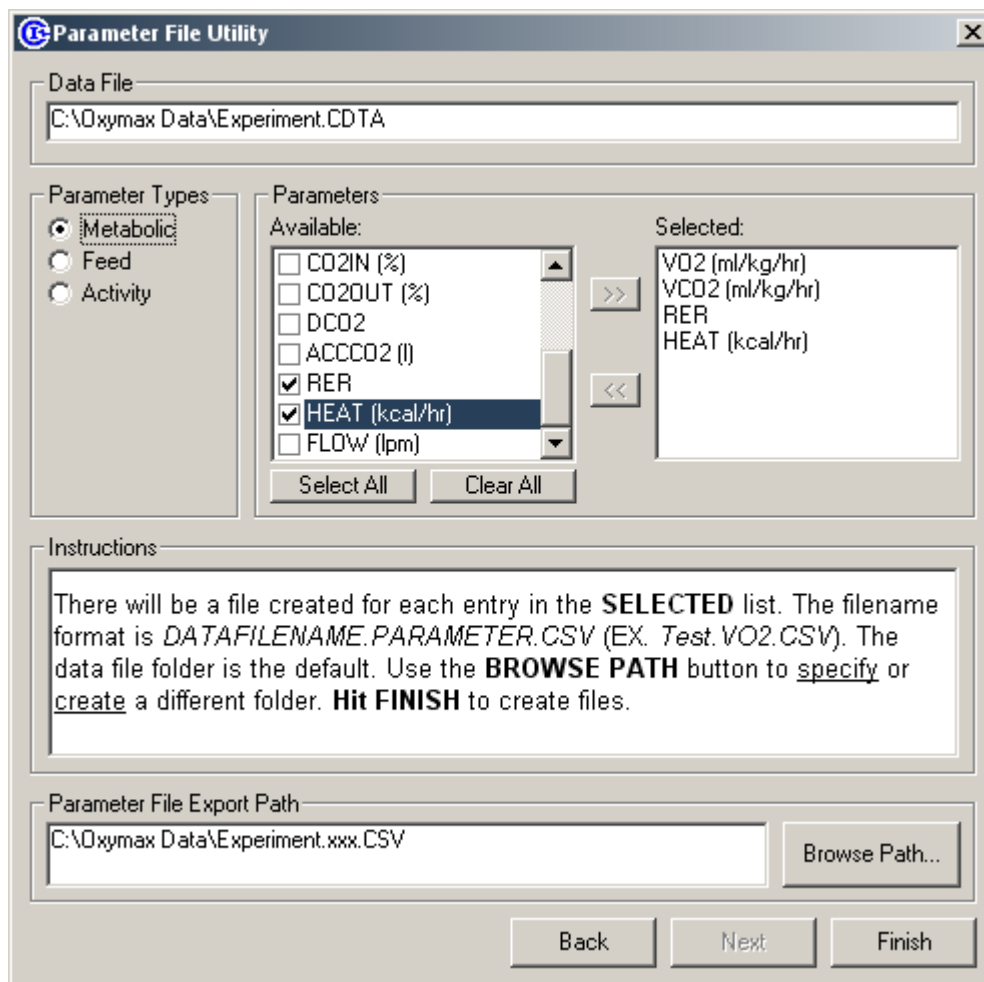

Figure 57 - Parameter File Utility
2. Click “File >> Parameters” to open the Parameter File Utility shown in Figure 57. Instructions for generating parameter CSV files are also displayed in the “Instructions” frame of this window.